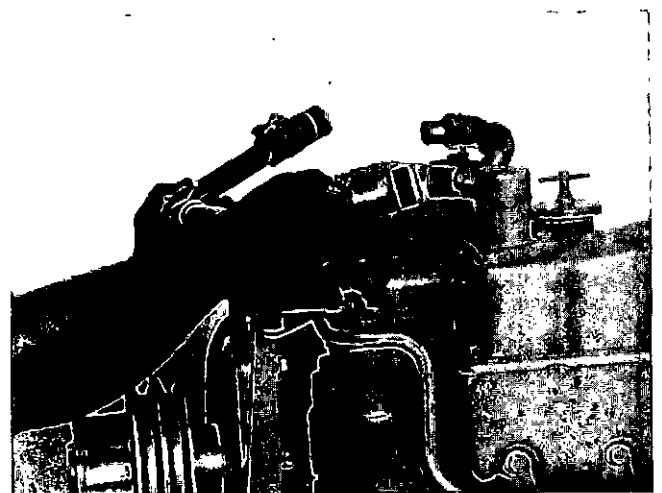

Fig. 0-20. Remove The Water Crossover Tube.
1. Loosen the clamps and remove the water crossover tube from the front of the after-cooler, Fig. 0-20.